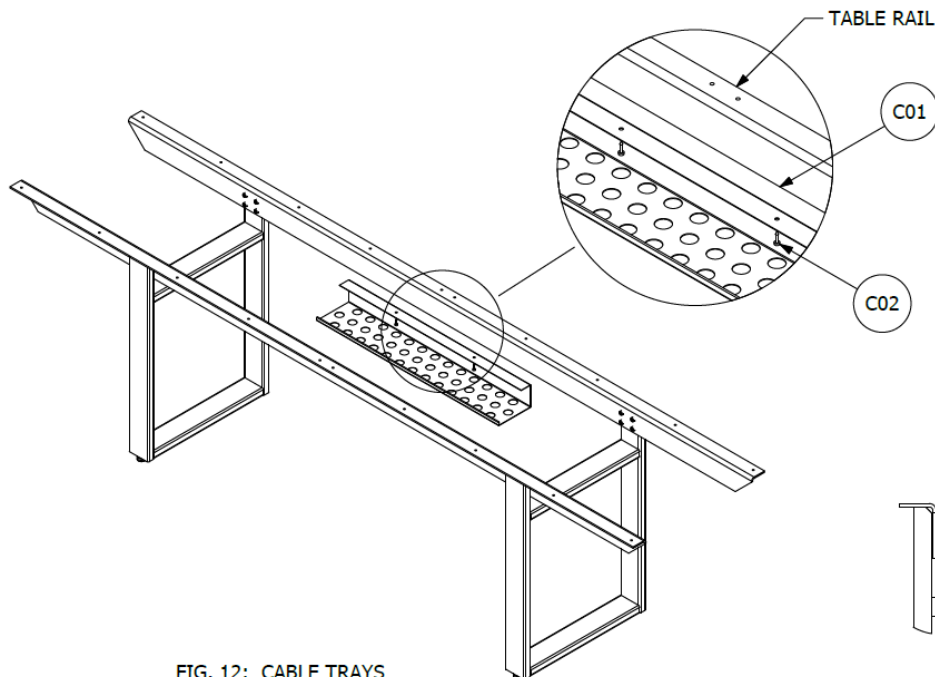

FIG. 12: CABLE TRAYS
1. Using Fastener (C02) attach Cable Tray (C01) up against the inside surface of the Tables Rails. See Figure 12.